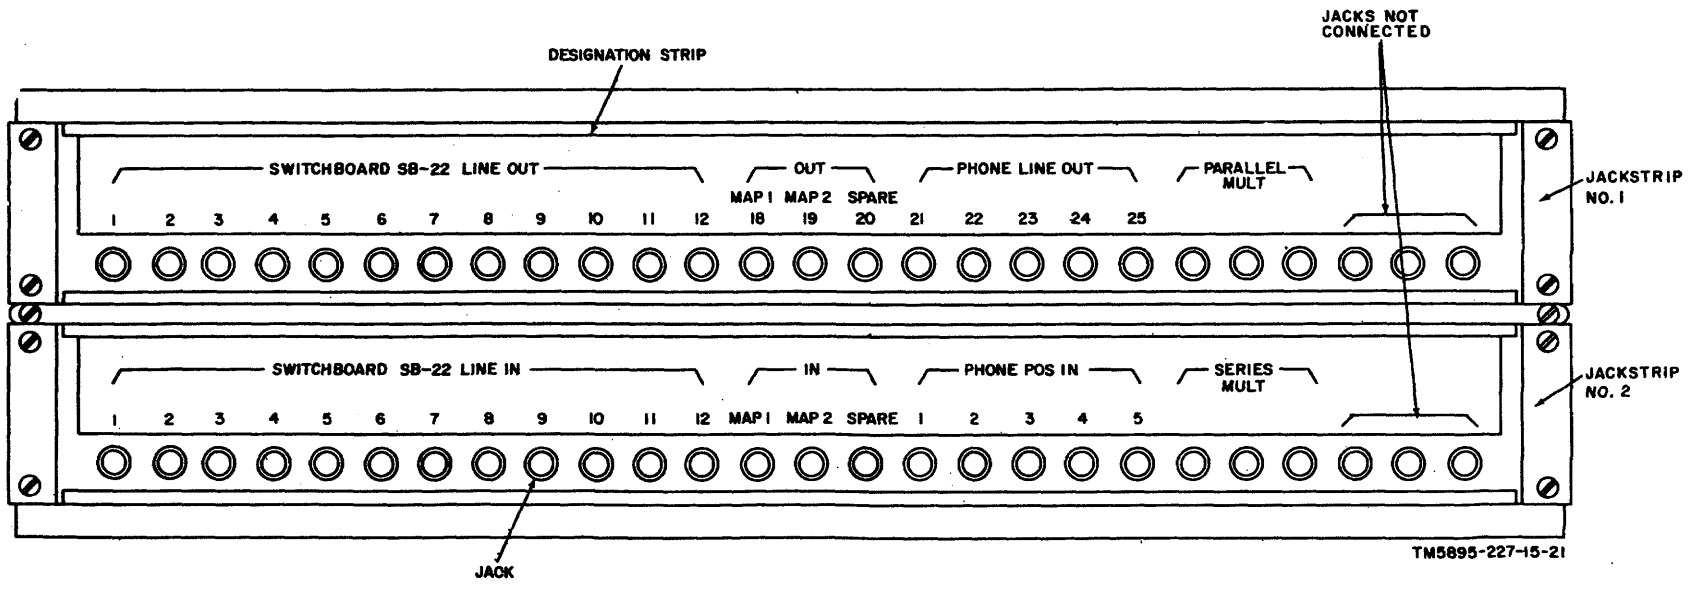

Figure 22. Patch panel.
g. *Patch Panel* (fig. 22). The patch panel is shelf mounted above the SB-22 (*)/PT (fig. 14). It consists of two jack strips and is used for rearranging telephone, teletypewriter, and switchboard circuits (para. 30).